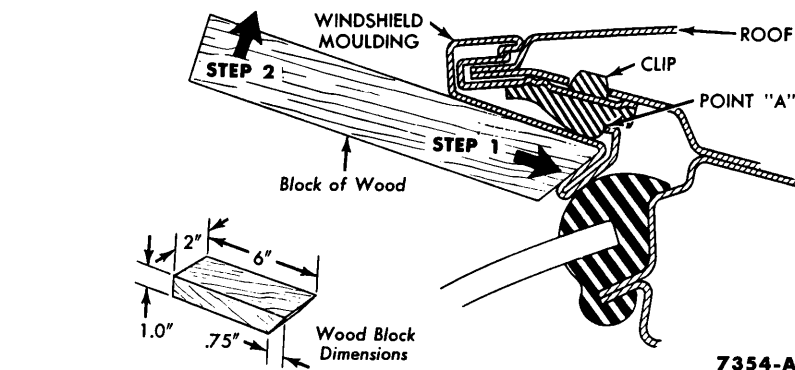

FIG. 2—Windshield Moulding Removal
4. Remove the windshield upper right and left moulding retaining screws and remove the mouldings (Fig. 2).
To remove the windshield top moulding on a model 63, exert force in the direction shown in step 1 (Fig. 2) and at the same time exert force in the direction shown in step 2. This will remove the moulding from the clip at point "A" (Fig. 2).
12. Install the top edge of the windshield center moulding (Fig. 2) and press the bottom edge into each of the five retaining clips. Install the right and left top moulding. Install the windshield right and left moulding.